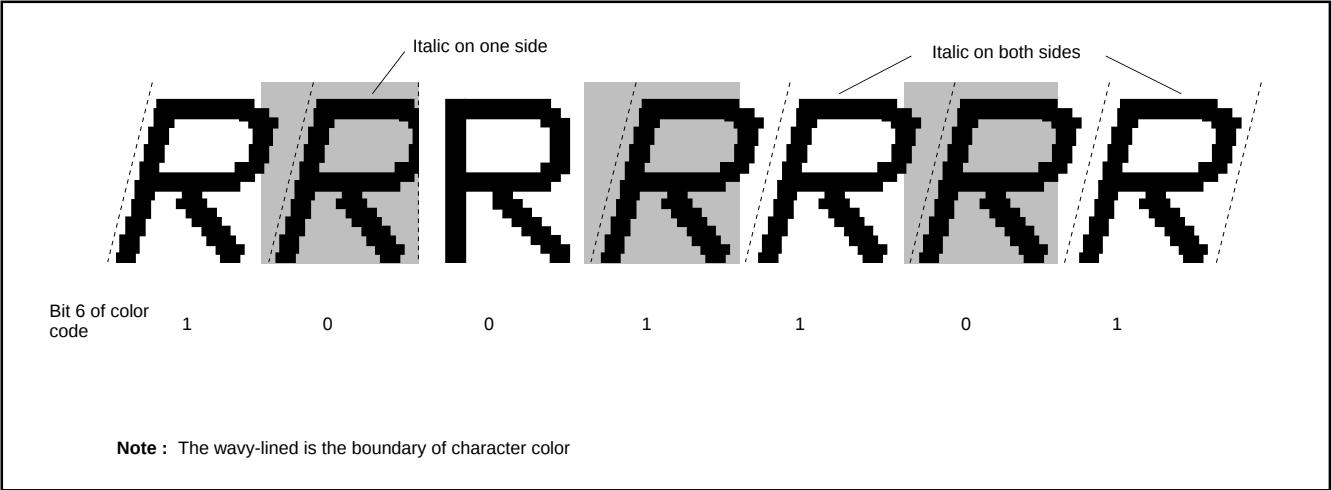

Fig. 63. Example of Italic Display
**2:** The adjacent character (one side or both side) to an italic character is displayed in italic even when the character is not specified to display in italic (refer to Figure 63).